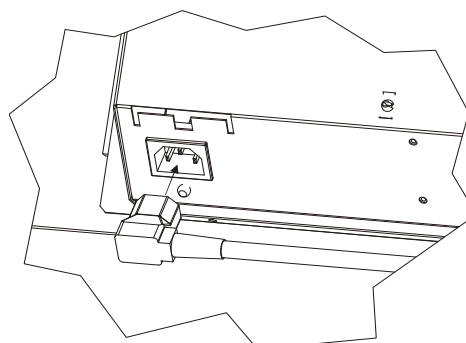

FIG 2
- 6) Connect the mains cord to the fire as shown in figure 2
Note: If the stand is to be used the Mains cable plug must be inserted into the mains connector on the underside of the appliance as shown on Page 3 Fig 2 before the free standing plinth is Fitted. Ensure that the mains plug is not connected to the mains supply before the Free standing plinth is fitted.